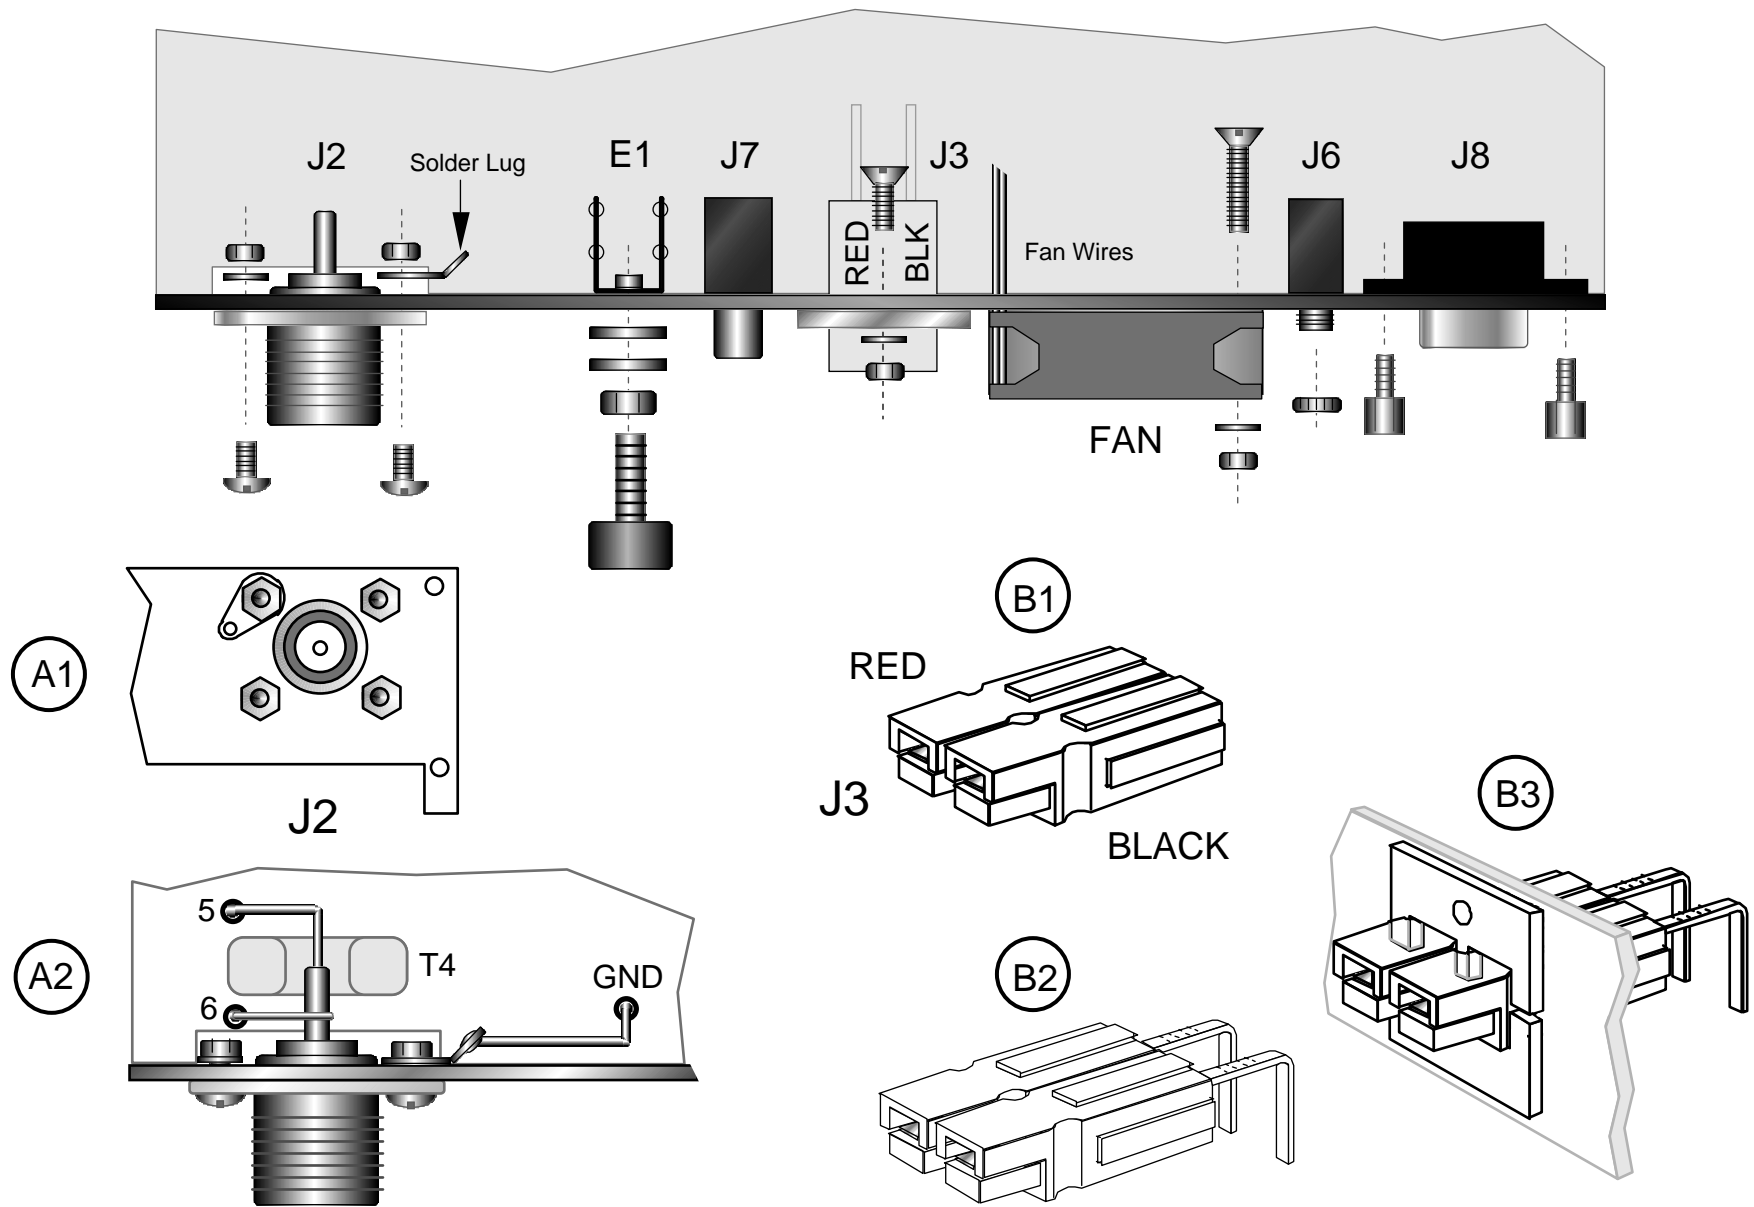

Figure 24
Figure 24 (page 32) shows the connectors and other hardware that will be attached to the rear panel in the following steps. The antenna jack (J2), DC power jack (J3), and fan will be secured to the panel first, then the rear panel assembly will be attached to the KPA100 PC board.
Place the antenna jack, J2 (SO239) in its position on the rear panel as shown in Figure 24. **The connector's square flange goes on the outside of the panel (the side with the labeling), not the inside.**
Attach J2 to the rear panel as shown in Figure 24. Use four 4-40 x 1/4" (6.4 mm) pan head screws, one solder lug, **three** #4 split lock washers, and four 4-40 nuts. As shown in Detail A1, the solder lug takes the place of one lock washer. The lug must be installed on the screw nearest the top edge of the rear panel. **Do not overtighten the hardware.**
- Locate two DC input connector housings, one red and one black. Hold the two connectors in the orientation shown in Detail B1 of Figure 24. Look closely at the sides of the connectors. Each has a small tongue on the right side, and a groove on the left.
- Use two E-shaped brackets to hold the housings in place, as shown in Detail B3 (one from above, one from below). Secure the brackets to the rear panel using two 4-40 x 1/4" (6.4 mm) flat head screws, two #4 split lock washers, and two 4-40 nuts. This hardware is shown in Figure 24 (at top).
- Solder one end of the **red** wire to the center pin of the antenna connector (J2) as shown in Figure 24, Detail A2. Remove any excess solder from the outside of the pin using desoldering braid.
- Solder J2's wires to the points indicated in Detail A2 of Figure 24. The red wire goes to T4 pin 5, black wire to the pad labeled "GND" near E1, and bare wire jumper to T4 pin 6.